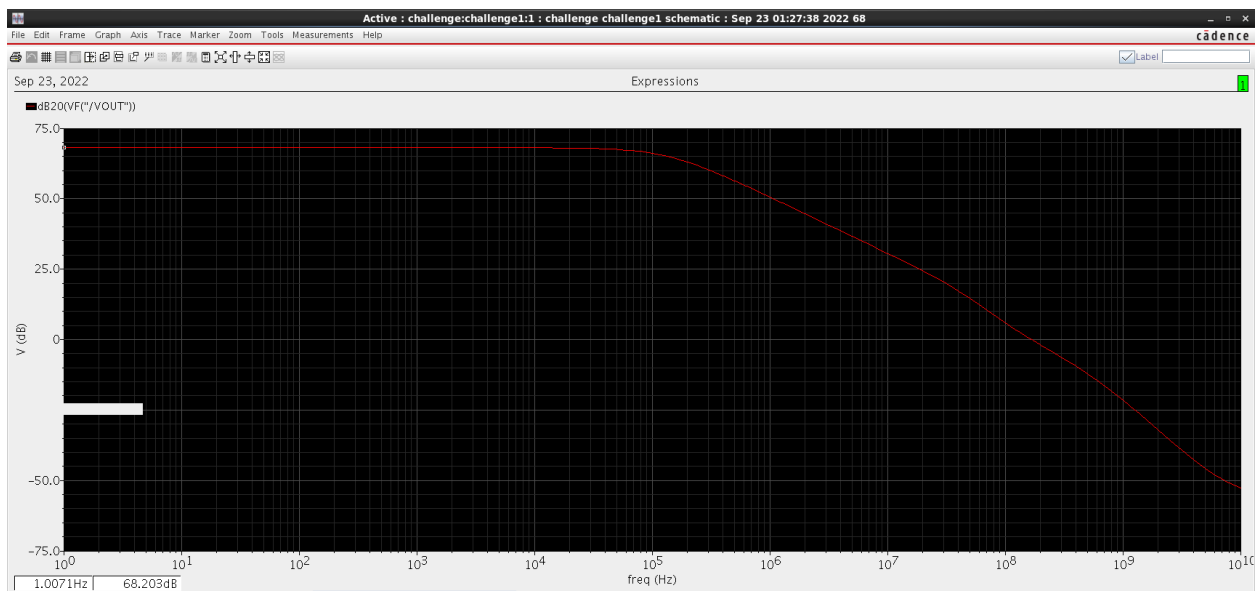

Figure 2.3
-I plotted diff gain (in dB) and phase vs frequency as shown in figures 2.3 , 2.4 , 2.5.